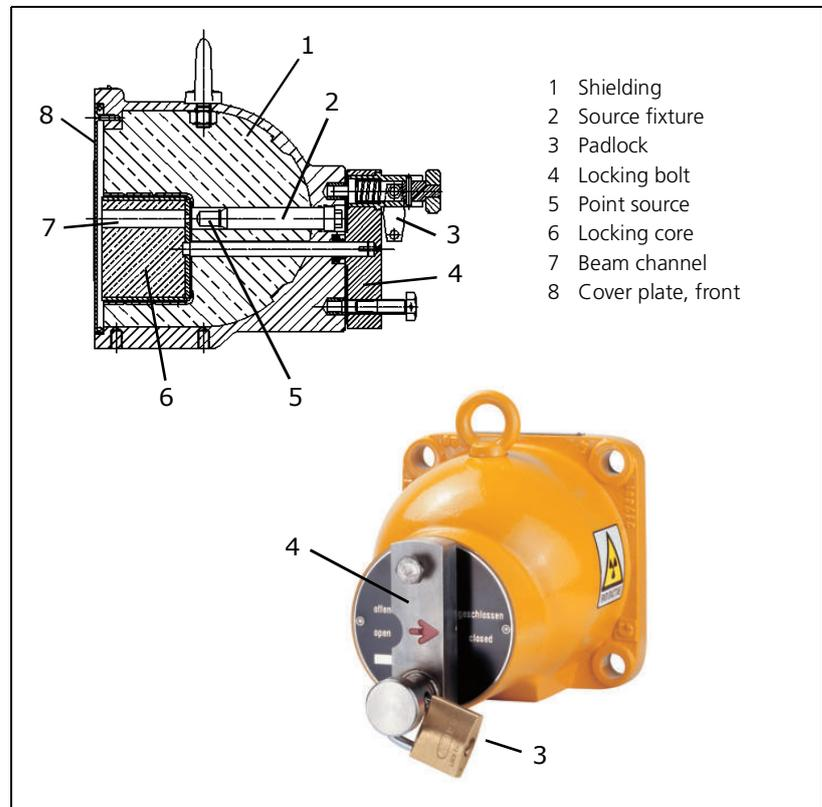

Fig. 2-16 Cross-section drawing and photo of the point source shielding, top: beam channel open, bottom: beam channel closed
The shielding consists of a lead cylinder with source exit channel (7), surrounded by a steel jacket (Fig. 2-16). The locking core (6) is firmly connected with a lever (4). The "OPEN" and "CLOSED" positions are secured and the removal of the sources by unauthorized persons is prevented by a padlock (3).